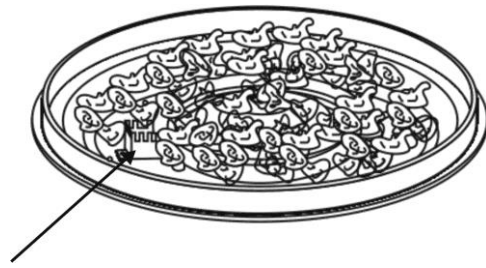

Figure 5
3. Remove cardboard cover from the ignition we $\text{\textcircled{f}}$ as shown in Figure 5.